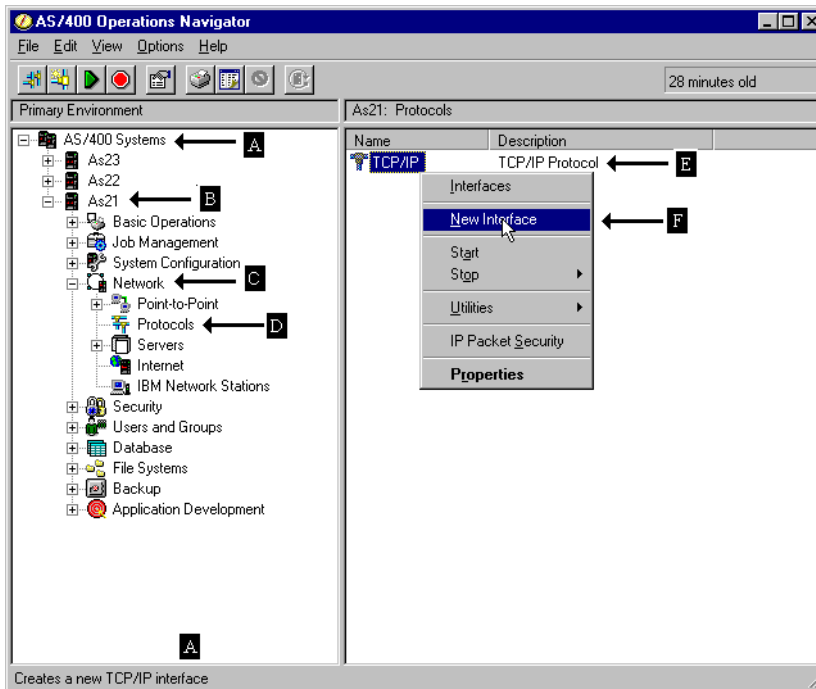

Figure 472. Context menu: New Interface
- a. Double-click your AS/400 System icon (A) and it should give you a list of all the AS/400 Systems that you are configuring.
- b. Double-click the AS/400 system that you want to configure a TCP/IP route for (B).
- c. Double-click **Network** (C).
- d. Double-click **Protocols** (D).
- e. Right-click **TCP/IP** to open a context menu (E). Select **New Interface** (F). Figure 472 shows the context menu - New Interface option.